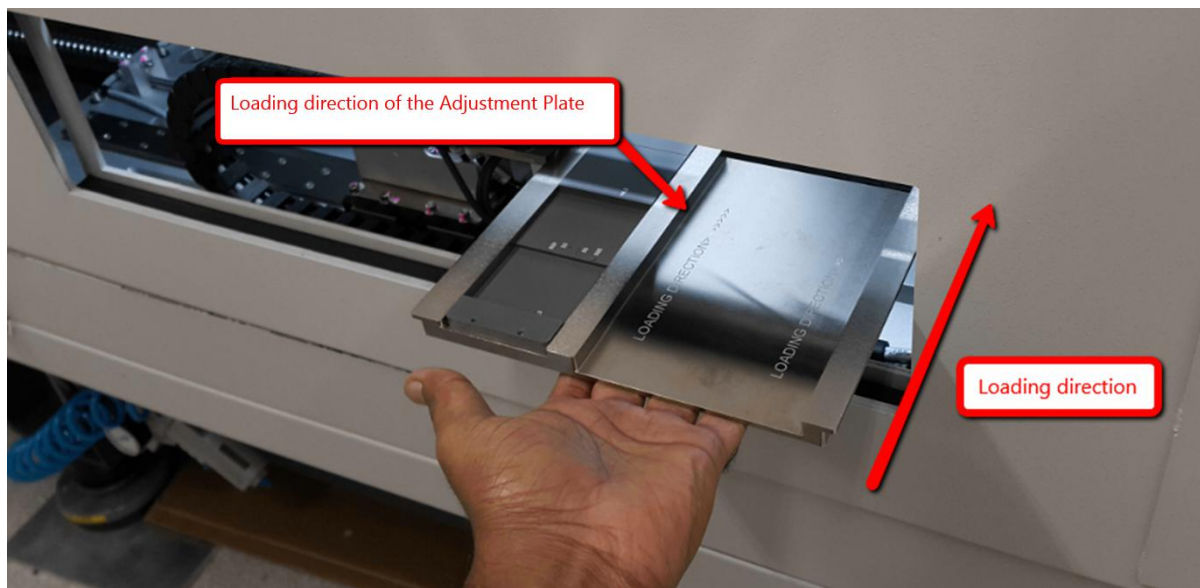

Figure 29 Jig loading
21. Insert the jig once the left outer barrier open as shown in the Figure 29. Once the test is finished, the outer barrier will open. Remove the jig as shown in the Figure 30.